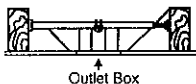

Fig. 4
4. To hang the fan in locations where no ceiling joist is available, a hanger support bar may be required (Fig. 4).